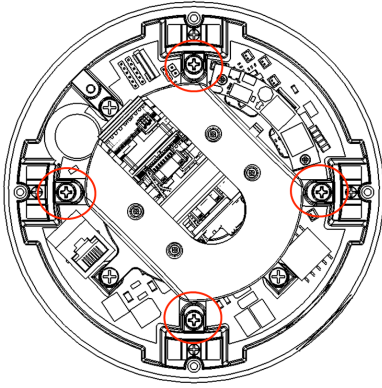

Figure 5
8. Fasten securely four captive screws as shown in Figure 5.